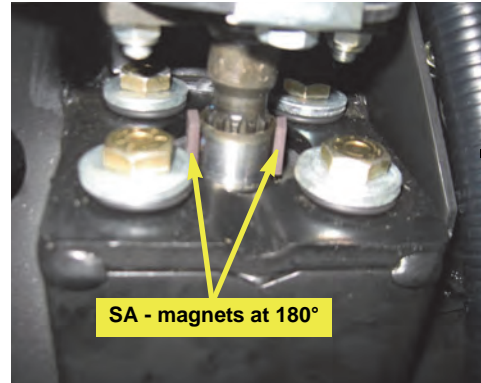

Figure 1c: Installed magnets
- c. Using hardware **WF** (screw) and **WE** (nut), attach the WAS arm **WC** to the WAS assembly. Mount the arm in the opposite direction to the WAS wire connector **WB** (Figure 1c with inset).
Figure 1c with inset: WAS arm installed
- c. Trim magnets **SA** to the height of the orbital's splined sleeve and, using the two-part epoxy **SB**, attach the magnets 180° apart on the splined sleeve (Figure 1c).